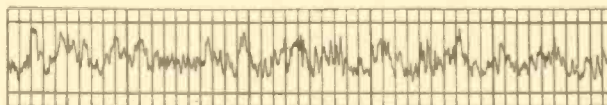

Fig. 1—Noise voltage fluctuations in the plate circuit of a 259B vacuum tube as shown by the rapid record oscillograph.
roar at the output of a high-gain amplifier. Figure 1 shows voltage fluctuations in a Western Electric 259B vacuum tube as recorded by the rapid record oscillograph. While thermal noise in the circuit is accurately predictable, the noise originating in the vacuum tube is not completely understood and cannot be calculated accurately. It is known, however, that the noise arises from a number of different causes. Chief among these are: (1) thermal agitation in the internal plate resistance of the tube, (2) shot ef-